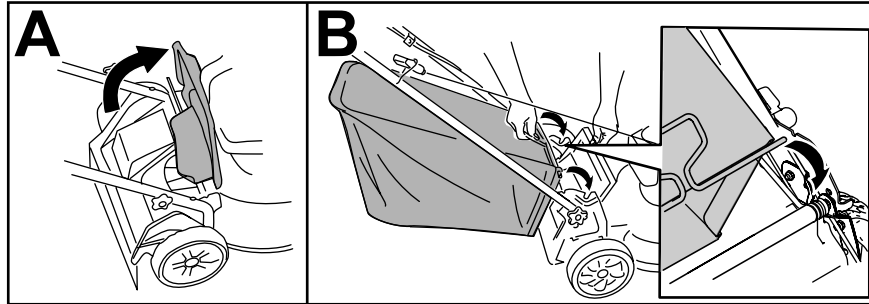

Figure 14
1. Raise and hold up the rear deflector (A of Figure 14).
2. Install the grass bag, ensuring that the pins on the bag rest in the notches on the handle (B of Figure 14).